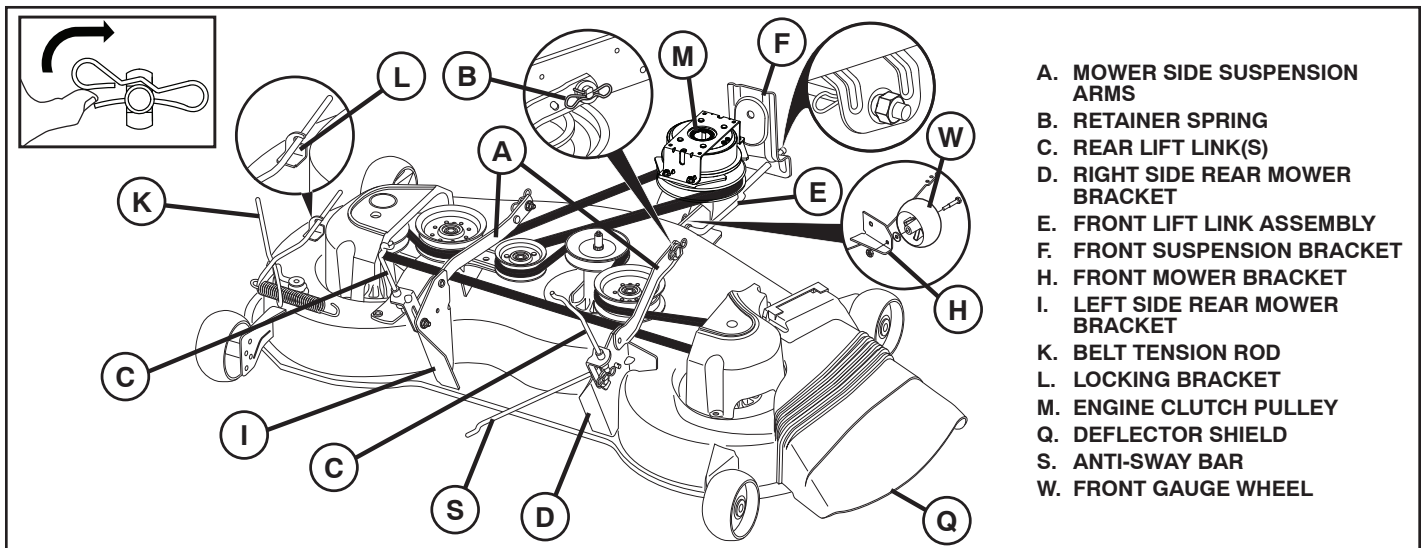

Fig. 21
## TO REMOVE MOWER (See Fig. 21)
## TO INSTALL MOWER (See Figs. 21 - 33)
## 9 INSTALL BELT ON ENGINE CLUTCH PULLEY (M) (See Fig. 21 & 33)
- Disengage belt tension rod (K) from locking bracket (L).
- Install belt onto engine clutch pulley (M).